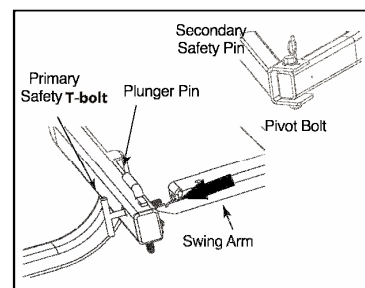

FIG 1.
- Place hitch bar into vehicle's 2" receiver hitch, aligning hitch pin holes. **See Fig 1.** Locate the hitch pin from the hardware kit and install it into the hitch. It is not necessary to install the Hitch-Coupling Tightener at this point unless you plan on using your frame immediately.
To latch the Swingaway frame, swing the rack or carrier firmly toward the vehicle until the plunger pin has latched the swing arm and is fully engaged. (effort required to close may increase as more weight is loaded onto the rack or carrier). Next, screw the T-bolt safety into the swing arm nut until the T-bolt washer is flush against the frame. Be careful to keep the threads properly aligned to prevent cross threading. Finally, drop the secondary safety pin into place near the pivot bolt. If you are not able to engage the safeties it is likely that the frame is not fully engaged. **Always use both safeties when driving with the StowAway2 Bike Rack.** (See Fig 1.)